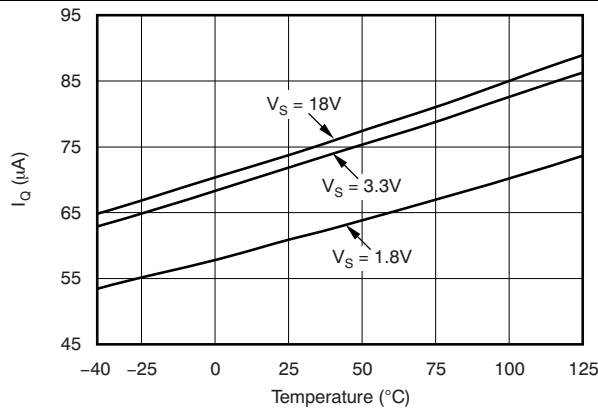

Figure 1. Quiescent Current Over Temperature and Supply
(1) 100% of production is tested at $T_A = +85^{\circ}C$. Specifications over temperature range are ensured by design.
(2) Shaded cells indicate characteristic performance difference.
(3) See Figure 1 for typical quiescent current.
(4) The TMP300 is functional over this range and no indication of performance is implied.